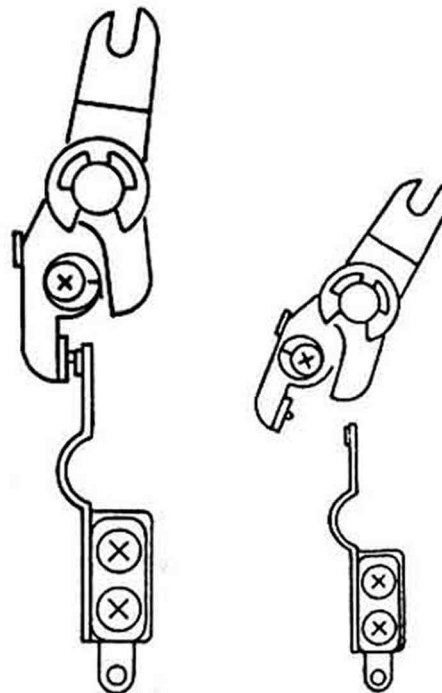

Fig. 89-1
- a. With the shutter cocked, the SLS1431S1 Trigger switch must be switched on as shown in the Fig. 89-1.